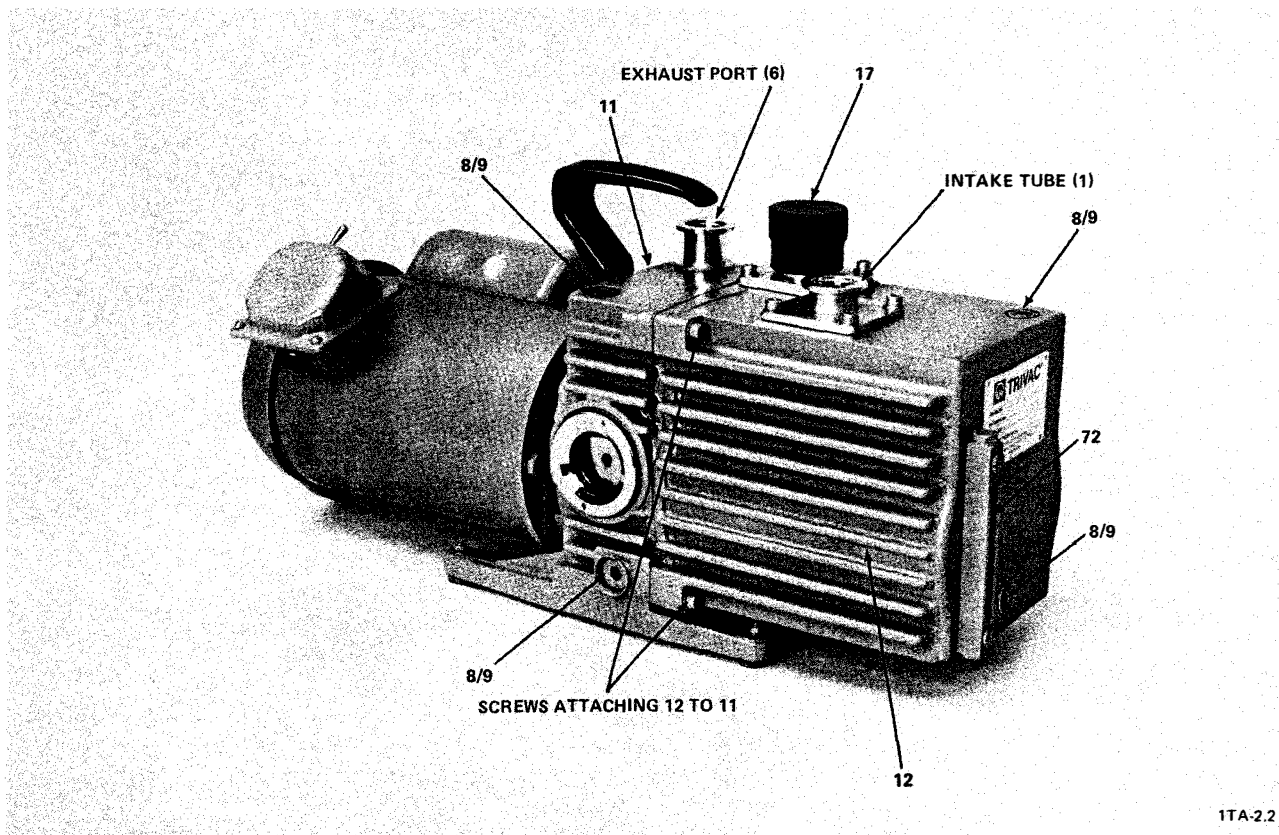

Figure 5-1. Assembled Pump (D16A Pump Model Shown)
- 9. Using an 8-mm allen wrench, reinstall the plug screw (8) with flat gasket (9) into the oil fill port.
Occasionally check the pump fluid for contamination by looking through the oil level glass (15) on the side of the pump. If the fluid in the oil-level glass (15) has an unusual color, is very dark, or appears dirty or turbid, refer to Section 4-3-2 to change the fluid. For anti-corrosive fluid, flakes in the fluid indicate that its corrosive resistance is spent and thus the fluid should be changed. The oil-sight tube (72) on the end of the oil casing does not give an accurate indication of the condition of the pump fluid (see Figure 5-1).
- B-1** Remove the KF clamp ring from the intake tube (1) and exhaust port (6) to disconnect the pump from your system.
- B-2** Remove the dirt trap with O-ring (2 and 3) from the intake tube (1) and the centering ring (7) from the exhaust port (6).
- B-3** Using an 8-mm allen wrench, remove the oil-fill and oil-drain plug screws (8) and flat gaskets (9) and allow the lubricating fluid to drain from the pump into a proper container (see Figure 5-1).
- B-4** Remove the intake tube (1) from the oil casing (12) as follows:
- Unscrew and remove the screws and washers that attach the intake tube to the oil casing (see Figure 5-1).
- a. Unscrew and remove the lower screws (or nuts) and washers that attach the oil casing (12) to the coupling housing (11) (see Figure 5-1).